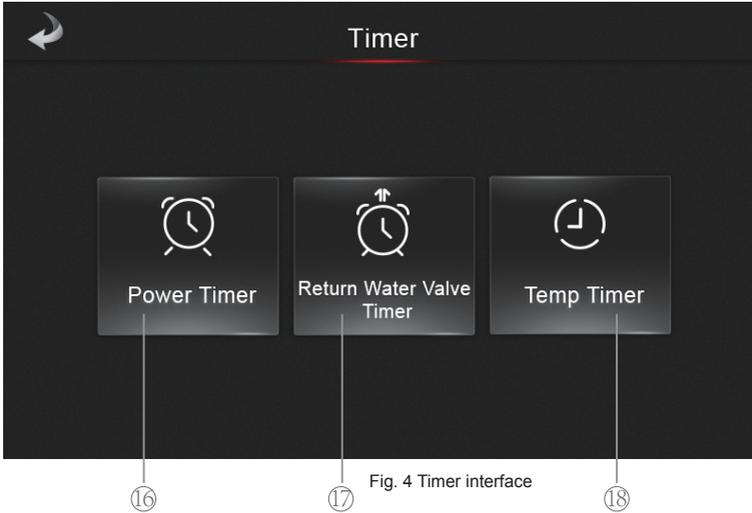
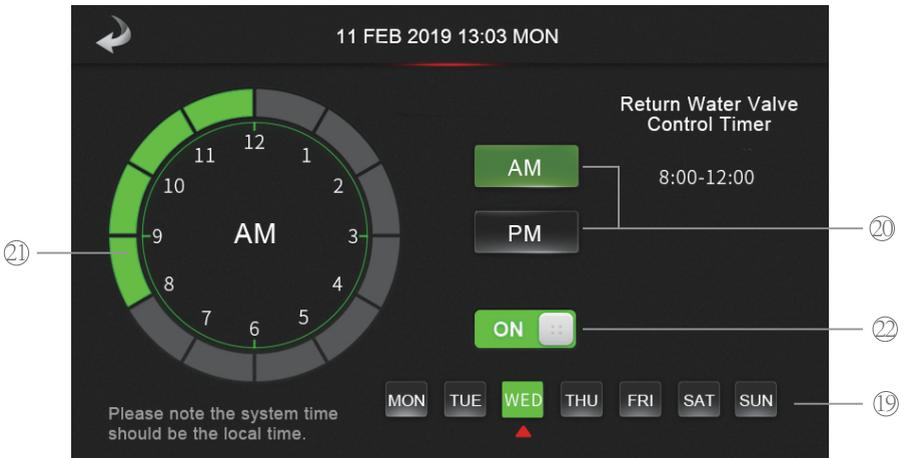
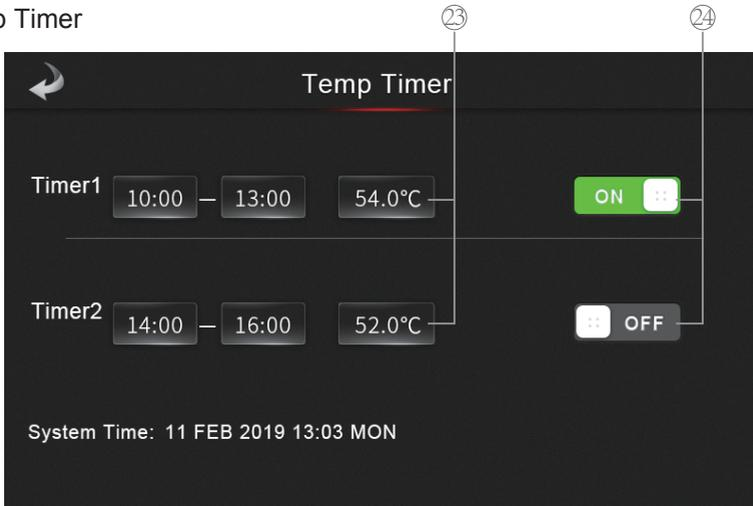

Fig. 4 Timer interface
Fig. 5 Power timer interface
Fig. 6 Temp timer interface
To enable Power Timer function, firstly press Timer button ⑤ in the main interface, secondly press Power Timer button ⑩ (Fig.4), it jumps to Power timer interface (Fig.5), press ⑪ to select the day of the week, press ⑫ to select AM or PM, then press ⑬ to select the time, and lastly press ⑭ to enable or turn off the setting.
To enable Temp Timer function, firstly press Timer button ⑤ in the main interface, secondly press Temp Timer button ⑱ (Fig.4), it jumps to Temp timer interface (Fig.6), then enter the starting, ending time and target temperature setpoint value ⑲, and lastly press ⑳ to enable or turn off the setting.